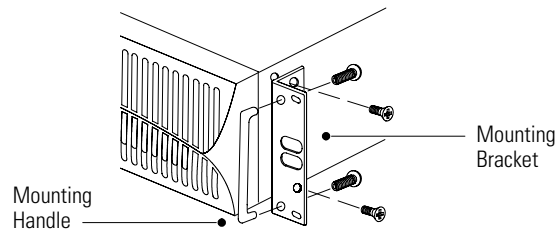

Figure 5. Installing the Mounting Handles and Brackets
2. Attach the supplied mounting handles to the mounting brackets and secure with the supplied screws (see Figure 5).
3. Align the mounting brackets with the screw holes on the side of the UPS and secure with the supplied screws (see Figure 5).